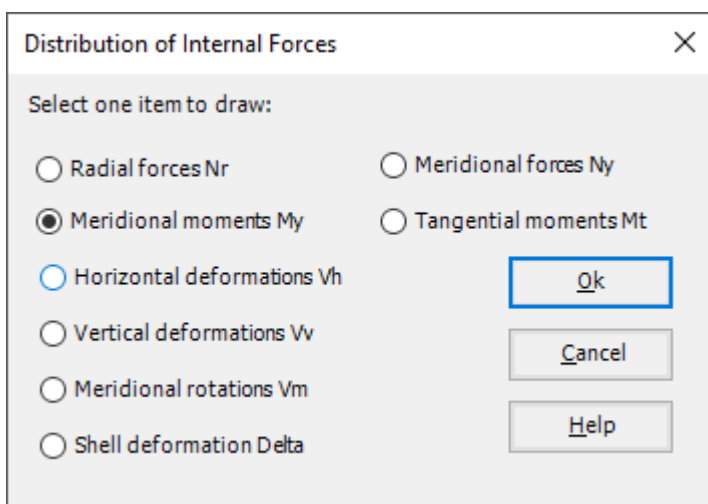

Figure 6.24 "Distribution of Internal Forces" option box
- From "Rotational shell results" command in the "Results" menu, choose "In Plan" command, the following option box in Figure 6.24 appears